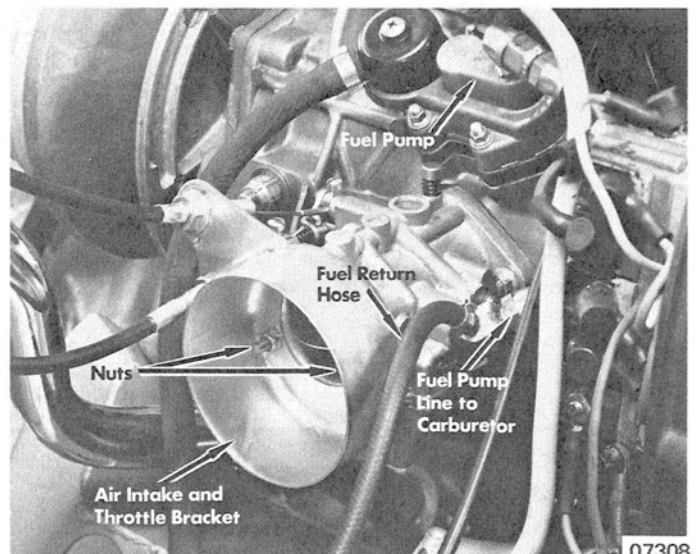

Figure 3. Disconnect Fuel Lines
5. Remove 2 nuts and remove air intake and throttle bracket. (Figure 3)
6. Disconnect carburetor to fuel pump line at fuel pump, then disconnect from carburetor. (Figure 3)
7. Remove fuel return hose from carburetor elbow. (Fig. 3)